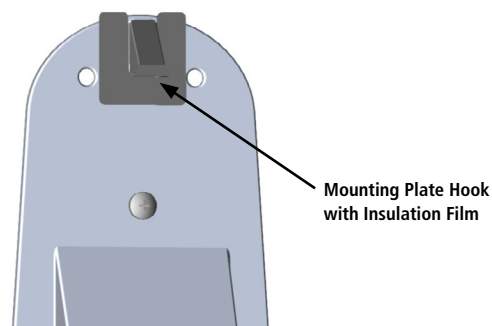

FIGURE 6
13. Align fixture housing with mounting plate hook feature, making sure not to pinch wires or damage insulation films. **See Figure 6.**
14. Secure fixture housing to mounting plate with (2) 8-32 screws provided, when Touch Dimming "TD" option has been selected, nylon washers should be present.